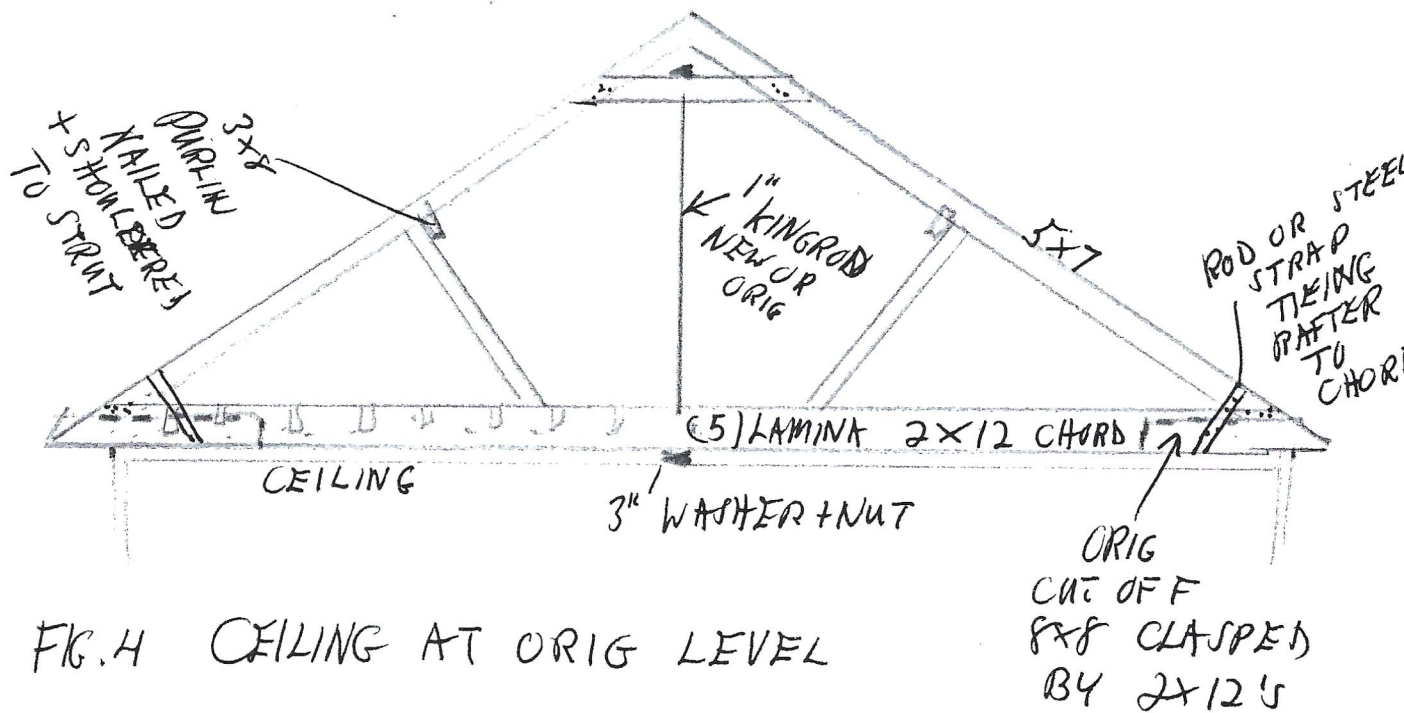

FIG. 4 CEILING AT ORIG LEVEL
**2. Trussing at the Original Ceiling Height:** To restore the room to its original ceiling height, it will be necessary to create a bottom chord (or tie beam) at the height of the cut-off ties by laminating 2x12 plank in long pieces around and in the position of the cut-off ties. (see Fig. 4) Using 2x12s will allow getting some screws from planks into the bottoms of the 5x7 rafters. Also add some diagonal straps affixed with four 1/2 inch x 4 inch lags, or through 3/4 inch rods, to help tie the rafters to the new and old tie beam combination.